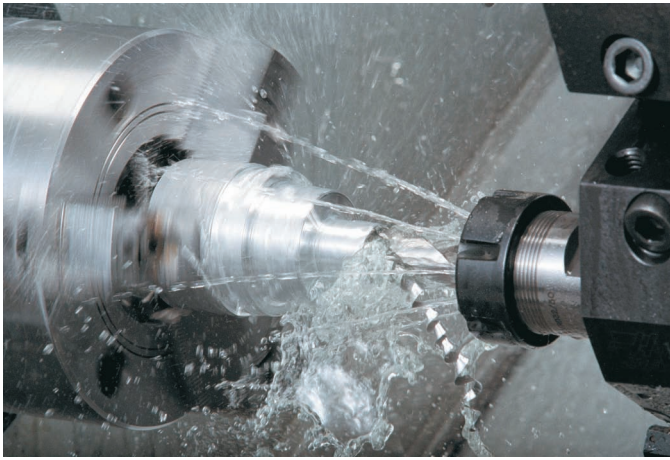

Figure 9-25 Coolant being forced through the tool to lubricate and eject chips.
4. Through the tool—requires special tooling that can pump the stream through a collar into hollow tools on lathes and mills. Using extra coolant filters to keep passages open, this method also gets the coolant right where it’s needed and is especially efficient for deep hole drilling where the chips are forced out of the hole (see Fig 9-25).